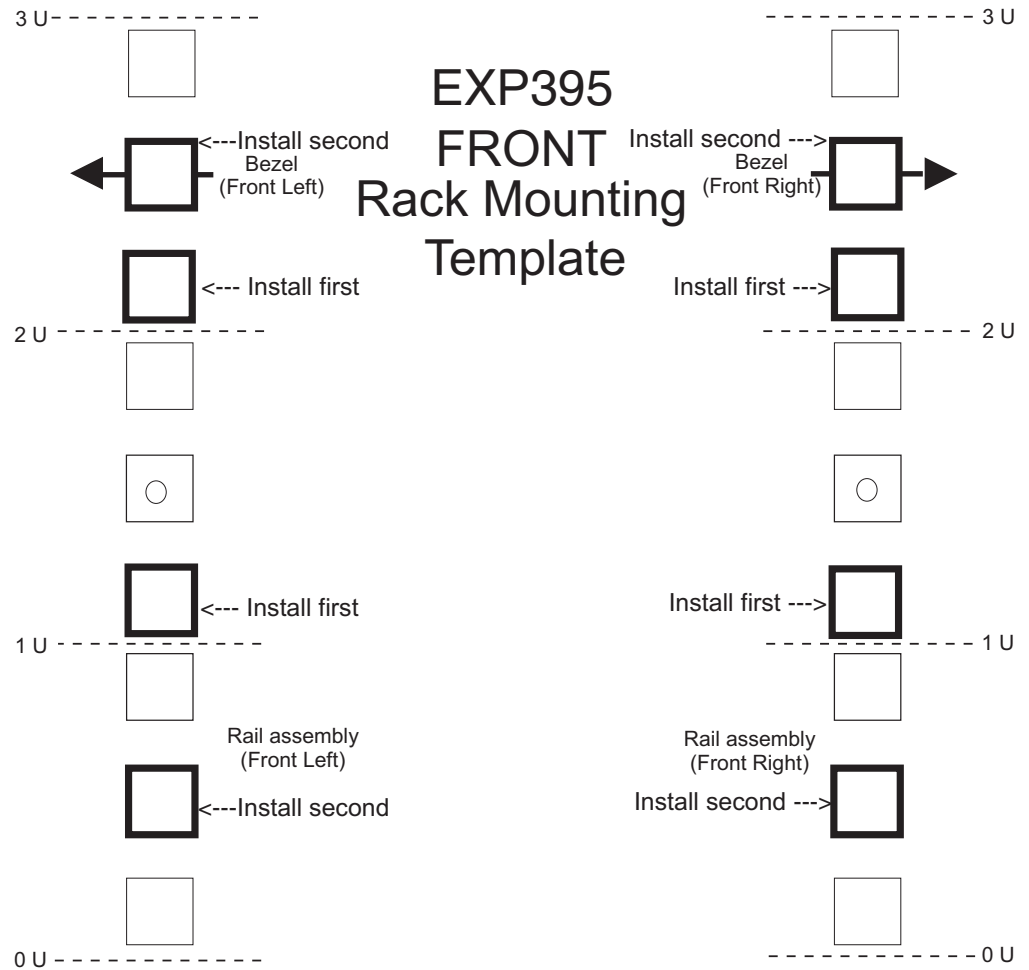
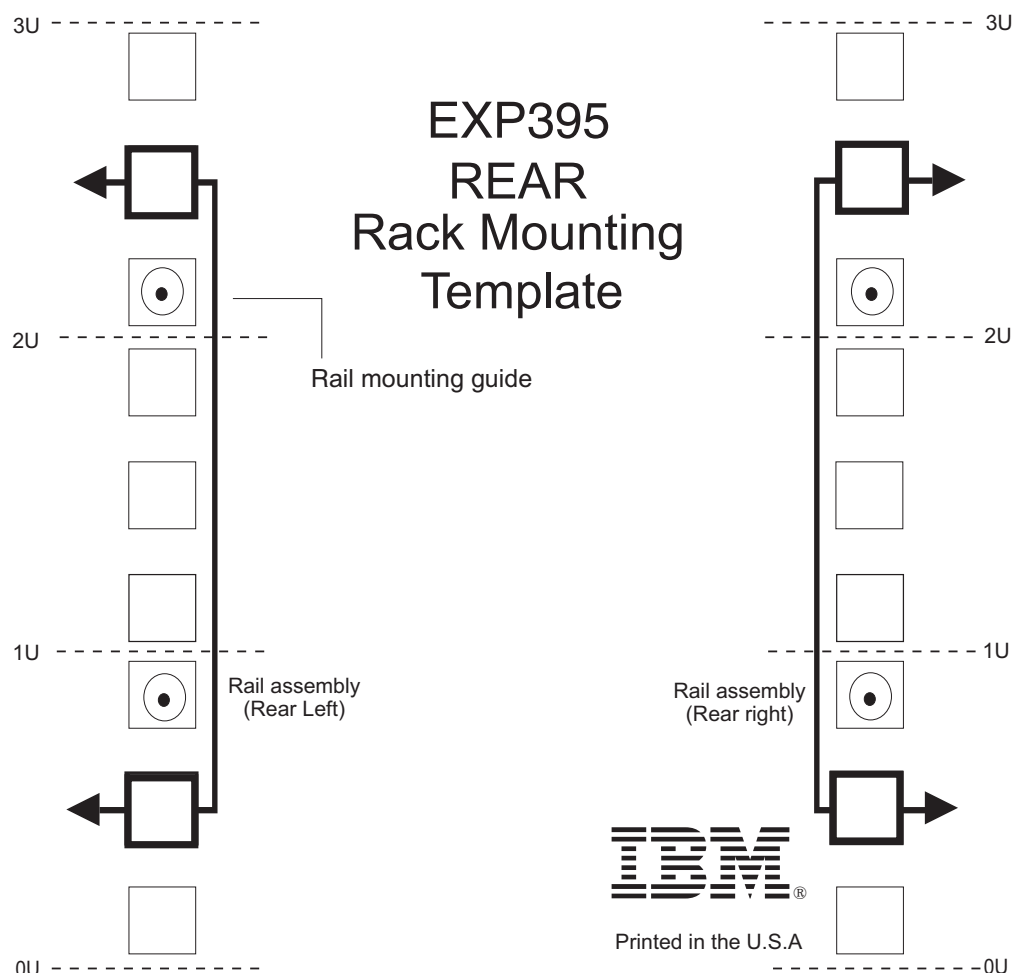

Figure 9. Front rack mounting template
Figure 10. Rear rack mounting template
Use the following templates (Figure 9 on page 25 and Figure 10 on page 26) to identify the proper locations for inserting M5 screws when mounting the support rails and EXP395 to a rack. The locations for the M5 screws are highlighted in the templates.
Attention: Use the rack mounting template provided in Figure 9 on page 25 and Figure 10 on page 26 to locate the proper rack mounting holes for installing the support rails into the rack.
6. Hold the back of the rail against the inside of the rack-mounting flange. Make sure the rail mounting guide pins are in the correct holes. See Figure 10 on page 26 for an illustration.
Note: Be sure to install the screws labeled *install first* in Figure 9 on page 25.